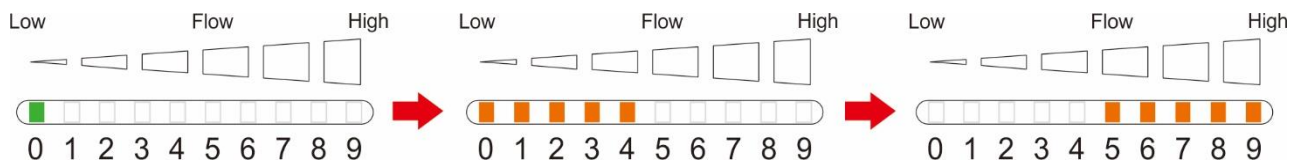

Figure 15
(2) Normally open contact (NO) switches to normally closed contact (NC):
Press and hold the left arrow key ◀ for about 1 second and the LED 0 lights up. Keep pressing and holding the left arrow key ◀ for about 5 seconds and the LED 0 flashes. After it keeps flashing for about 5 seconds, the LED 0~4 light up in orange simultaneously. After lighting up for 5 seconds, they switch to the LED5~9 lighting up in orange at the same time. The LEDs flash thrice simultaneously and the normally open contact (NO) switches to the normally closed contact (NC) right away. Release the button (Figure 15).